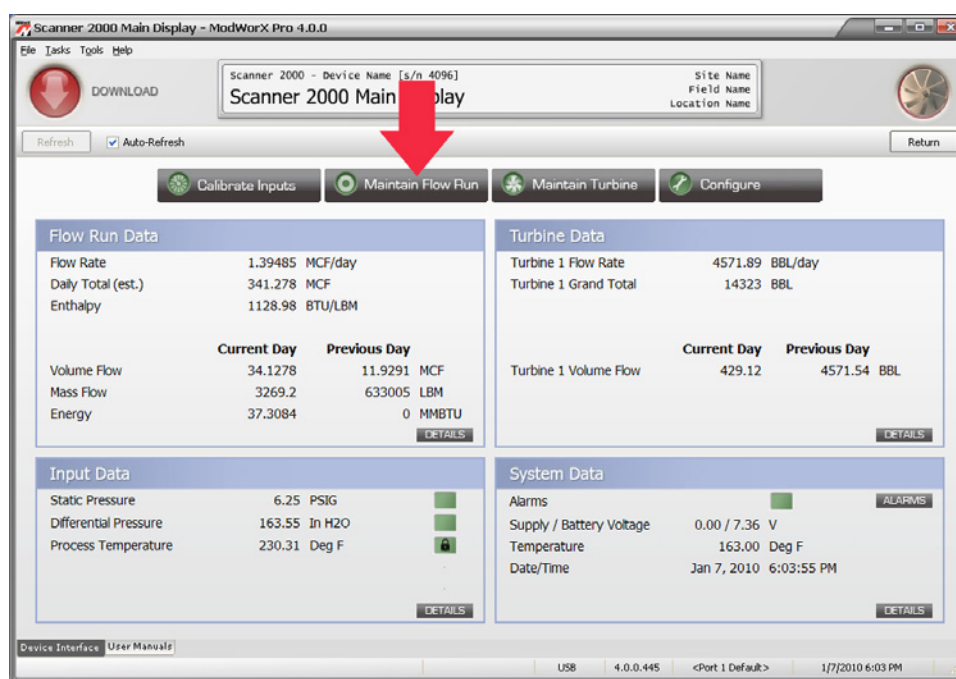

Figure 10.1
1. Click on the **Maintain Flow Run** button in the task menu bar on the Main Display screen (Figure 10.1).